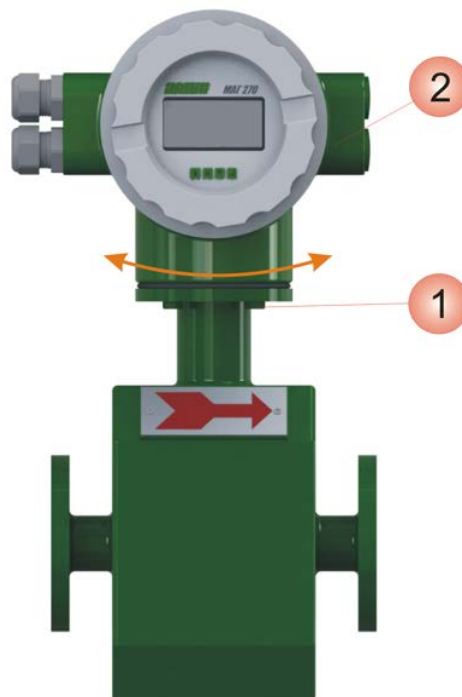

Fig.2.5 - Transmitter rotation
If reading is impossible due to display turned out of the operator, you can rotate it to 90° or 180° until so that the display is facing the operator. Release 4 bolts (1) (see fig.2.5) Rotate transmitter (2) to 90° or 180° in necessary direction, tighten the 4 bolts to secure connection.